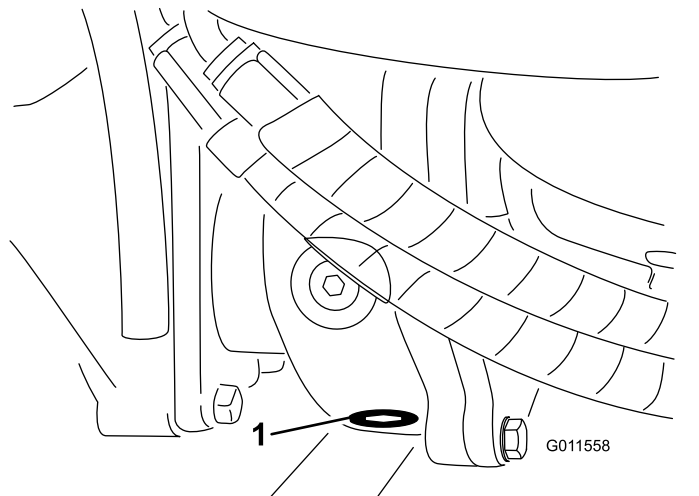

Figure 110
5. Clean the area around the drain plug at the bottom of the gearbox (Figure 110).